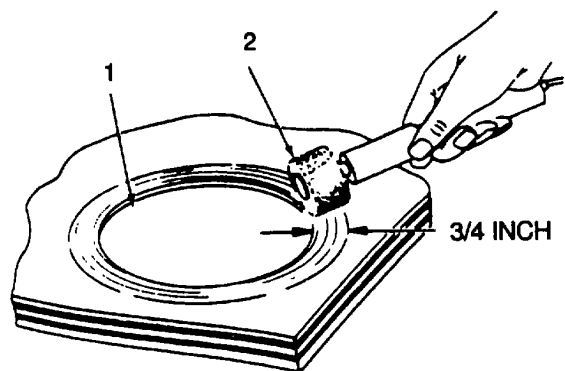

Figure 2-25. Buffing Damaged Area
(3) Buff surface around damage 3/4 inch larger in all directions than damaged area (1, figure 2-25). Use portable drill (2), abrasive arbor, and/or scotch-brite. Buff only to remove gloss without excessively reducing outer coating thickness.